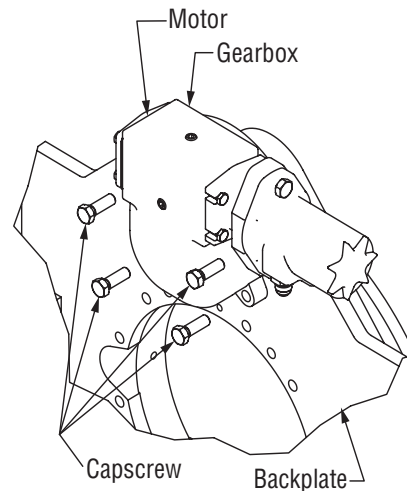

Figure 5-34, Gearbox Removal
2. Before removing the gearbox from the back plate, place a support overhead or under the gearbox. Remove the mounting capscrews from the gearbox. (Figure 5-34)